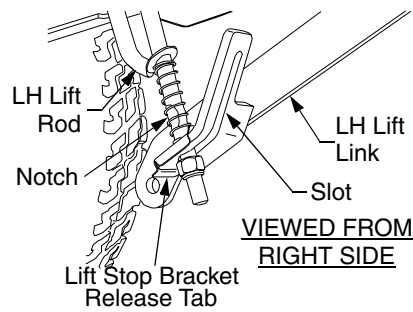

Figure 36A
5. Referring to Figures 36A through 36D, lock the LH lift link in its deck installation/removal position as follows:
- Holding the LH lift rod downward, lift upward on the release tab of the lift stop bracket while raising the rearward end of the lift link to align its slot with the notch of the LH lift rod (See Figures 36A and 36B).
1. If not already done, lock the LH lift link in its deck installation/removal position as follows: (Refer to Figures 36A through 36D).